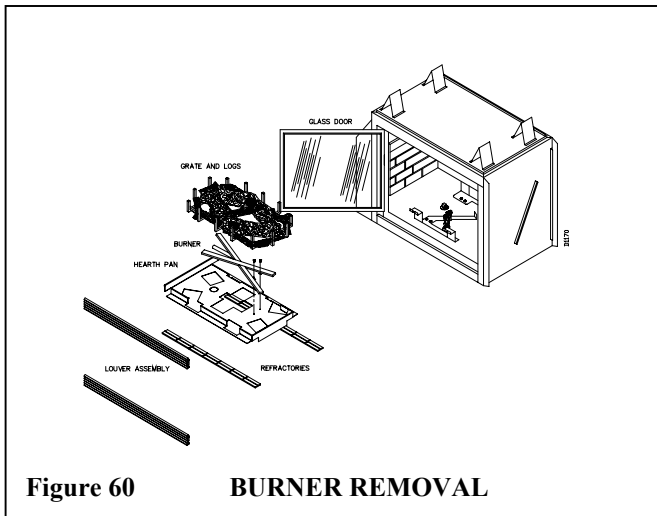

Figure 60 BURNER REMOVAL
1. Remove the top and bottom louvers and screen assembly, then open the glass door (see figure 60).